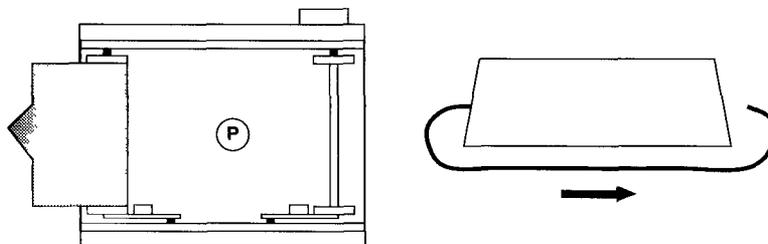

Figure 8.
- Step 4: Unwrap the new roll of film and feed it around the cartridge. See Figure 8. The tab in the roll of film fits into a slot on the empty spool.